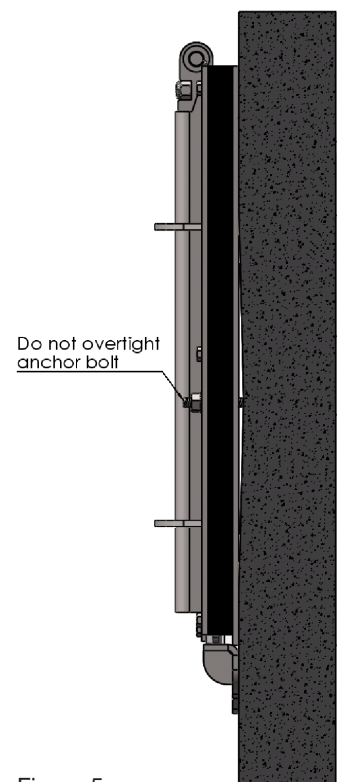

Figure 5
**CAUTION!:** If the penstock is not completely in contact with the wall, do not over-tighten the anchor bolts. Over tightening may bend or distort the frame. If the wall flatness and levelness is according to the specified standards, the construction sealant will fill in the remaining void (see Figure 5).